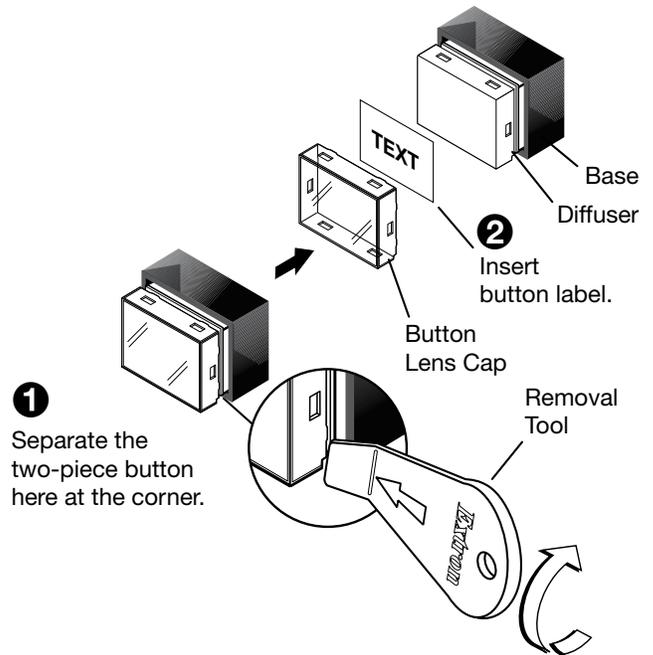

Figure 7. Replacing Button Labels on the EBP 103 D
2. Gently separate the button cap from its white diffuser: insert the end of the provided Extron removal tool into the corner notch and gently twist the tool (see figure 7, ①).